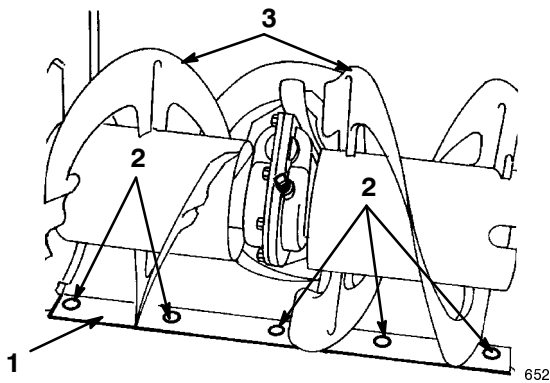

Figure 27
- Support the **auger blades** so that they are 1/8 inch (3 mm) off the ground (Fig. 27).
- To adjust the scraper, loosen the five mounting screws (Fig. 27), level the blade, and tighten the mounting screws.